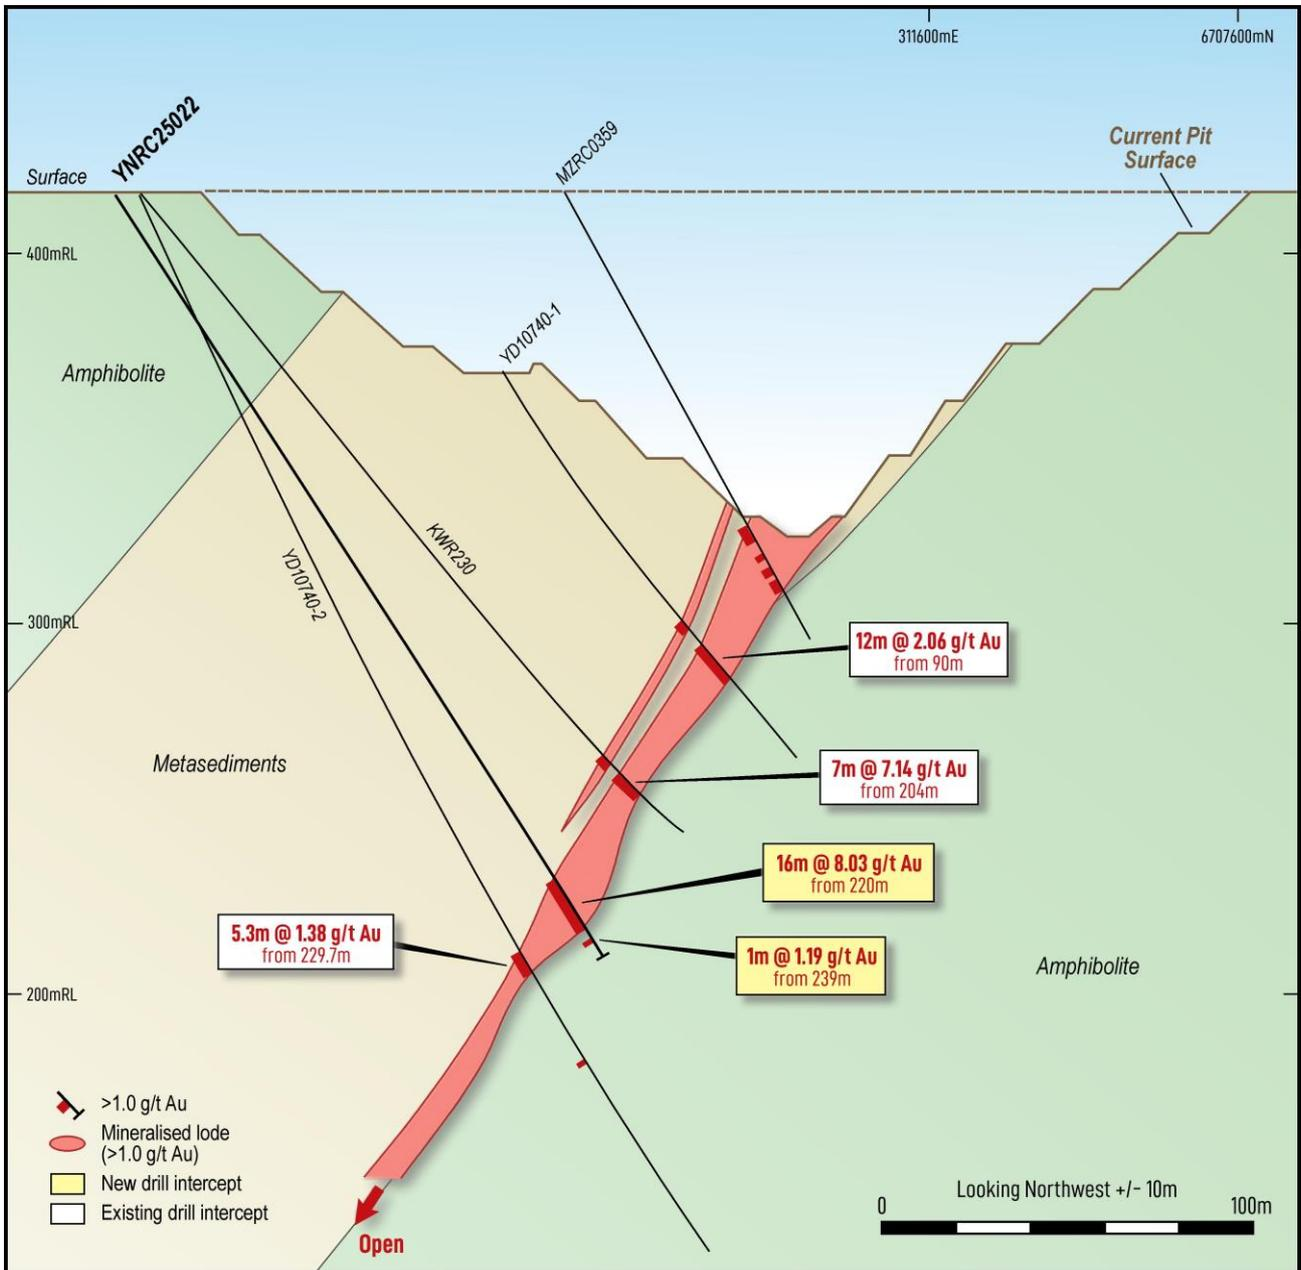

Figure 3 – Yunndaga Cross-section A-A'.
- **16m @ 8.03g/t Au** from 220m in YNRC25022, including **1m @ 33.6g/t Au** from 222m, and **4m @ 13.5g/t Au** from 228m (Figure 3)